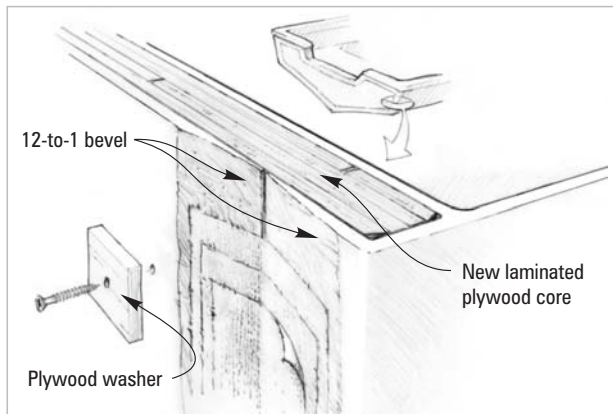

Figure 5-10 Grind a minimum 12-to-1 bevel on both sides of the joint. Laminate a repair patch over the joint to restore skin continuity.
Make a template of the transom and use it to layout the plywood layers. Because the opening in the transom skin is smaller than the full sized plywood core, you will need to replace each layer of the core in pieces (*Figure 5-10*). Cut each layer into pieces small enough to fit through the opening in the transom skin. Stagger the joints in each layer, by at least eight times the plywood thickness, from joints in the adjoining layers. For example, a 3" stagger will be required between joints when using ⅜" plywood. Ideally these joints are staggered widely. They can also be made on a diagonal to stagger them even more.
4. Place the first piece of plywood in position against the coated skin (*Figure 5-10*). Clamp the piece in place with drywall screws (and oversized washers) through the inner skin to draw the pieces of core tight to the inner skin. Coat the screws with a mold release for easy removal. A small amount of epoxy should squeeze from the joint around the core. (Fill the screw holes with epoxy after the lay-up has cured.)